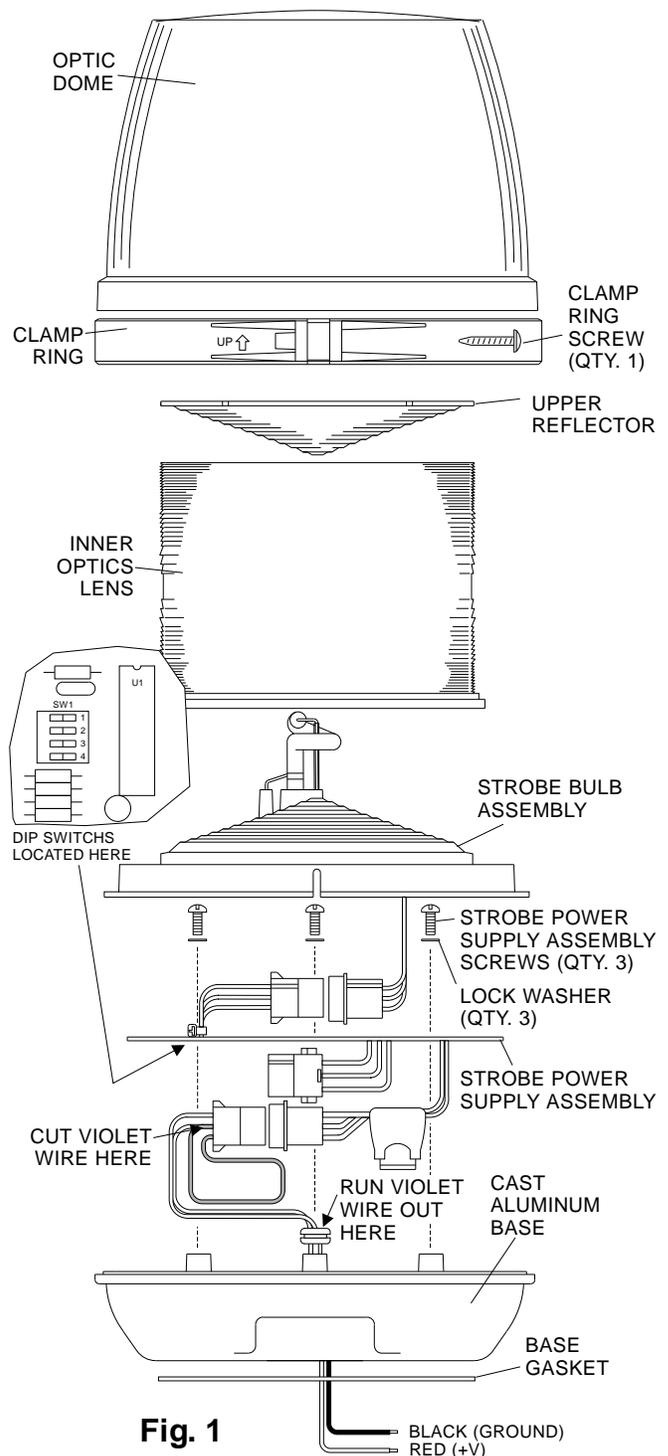

Fig. 1
1. Locate the clamp ring securing the optic dome to the base. Remove the clamp ring screw, clamp ring and optic dome from the base. (Fig. 1)
6. Locate the dip switch bank on the component side of the circuit board. The dip switch bank is comprised of (4), "rocker style" switches. Using a pencil or similar tool, move all of these switches into their "OFF" position.
2. Locate the "looped" violet wire. Cut this wire where it re-enters the connector at pin 2. (Fig. 1)